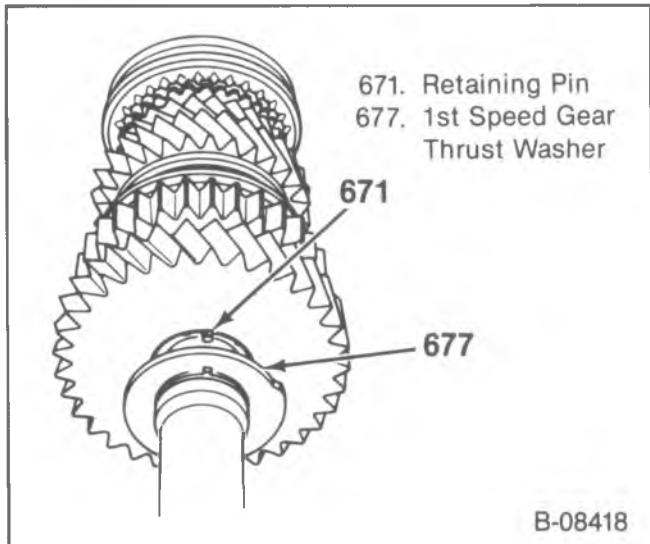
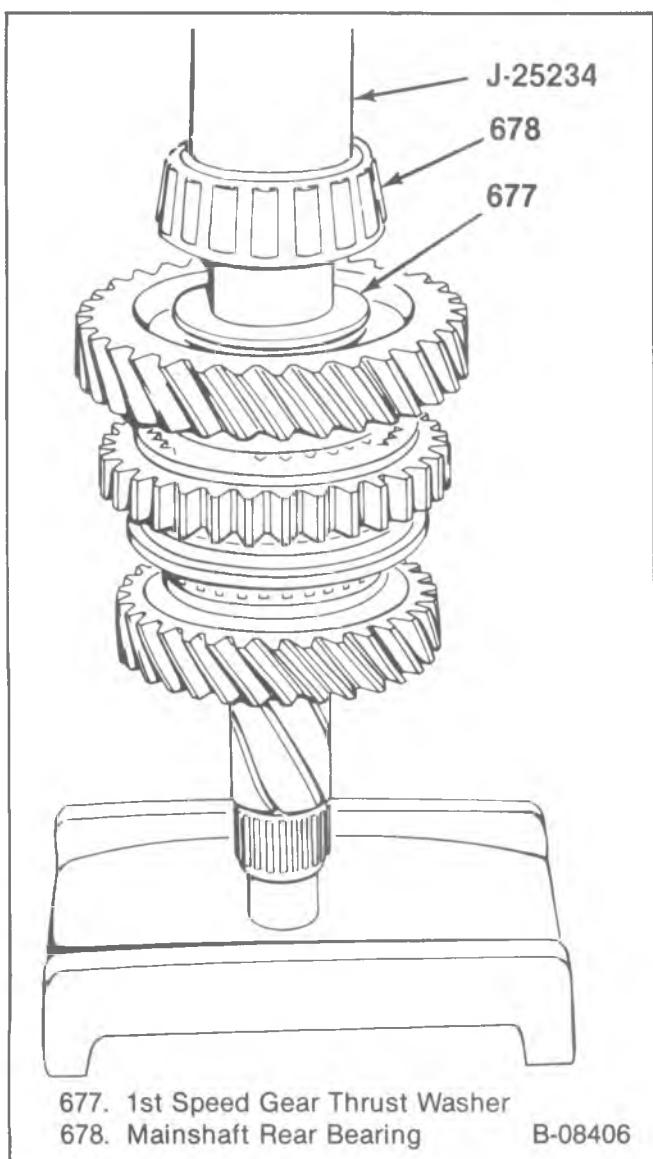

Figure 129—1st Speed Gear Retaining Pin
Figure 132—Installing the Mainshaft Rear Bearing
- 7. Remove the 1st speed gear thrust washer (677).
- 8. Pull the retaining pin out and remove the 1st speed gear (676), (figure 129).
7. Install the 1st speed gear (676) and a new retaining pin, (figure 129).
8. Slide the 1st speed gear thrust washer (677) against the gear.
9. Install the mainshaft rear bearing (678).
- The bearing may have to be pressed on using J-25234, (figure 132).
10. Install the 5th speed driven gear (679) using J-22912-01, (5 speed only).
11. Slide the 3rd speed gear (664) on with the cone to the front.
12. Slide the 3rd speed blocker ring (663) onto the 3rd speed gear.
13. Install the 3rd and 4th synchronizer (662) with the hub offset to the front.
14. Slide the 4th speed blocker ring (661) into the 3rd and 4th synchronizer.